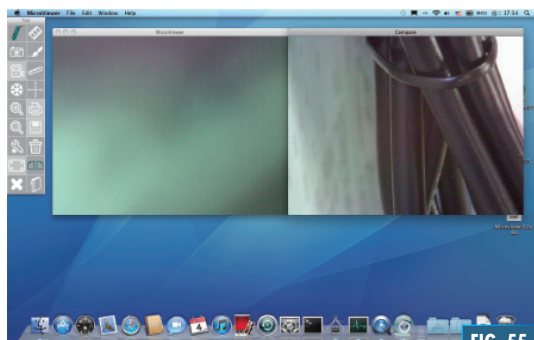

FIG. 55
1. Click the Compare button  and the compare window will appear on the screen. The live image shows on the left side (**Fig. 55**).